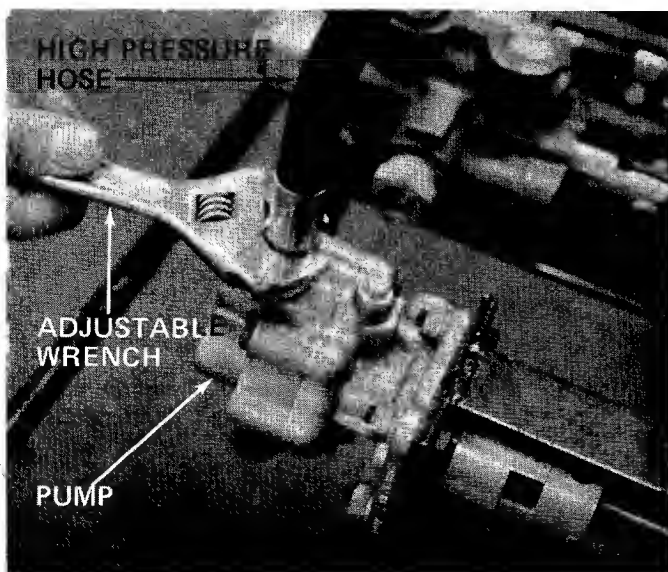

FIGURE 12
14. Assemble high pressure hose to pump. See figure 12. An adjustable wrench is required.